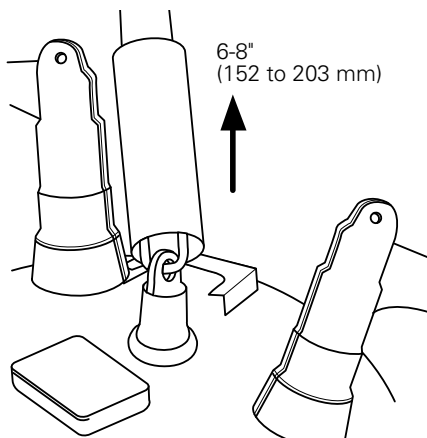

Figure 12. In one motion, rapidly withdraw fuse holder 6 to 8 inches (152 to 203 mm).
- Clamp exposed fuse holder eye with a hotstick and quickly withdraw fuse holder 6 to 8 inches (152 to 203 mm). Wait several seconds for fluid to drain into tank. (See Figure 12.)